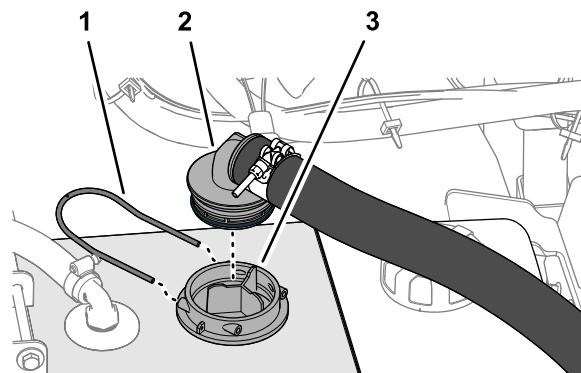

Figure 17
1. Insert the 90° barbed fitting of the suction hose to the housing for the suction screen until the fitting is fully seated (Figure 17).
2. Secure the 90° barbed fitting to the housing for the suction screen with the retainer fork (Figure 17).